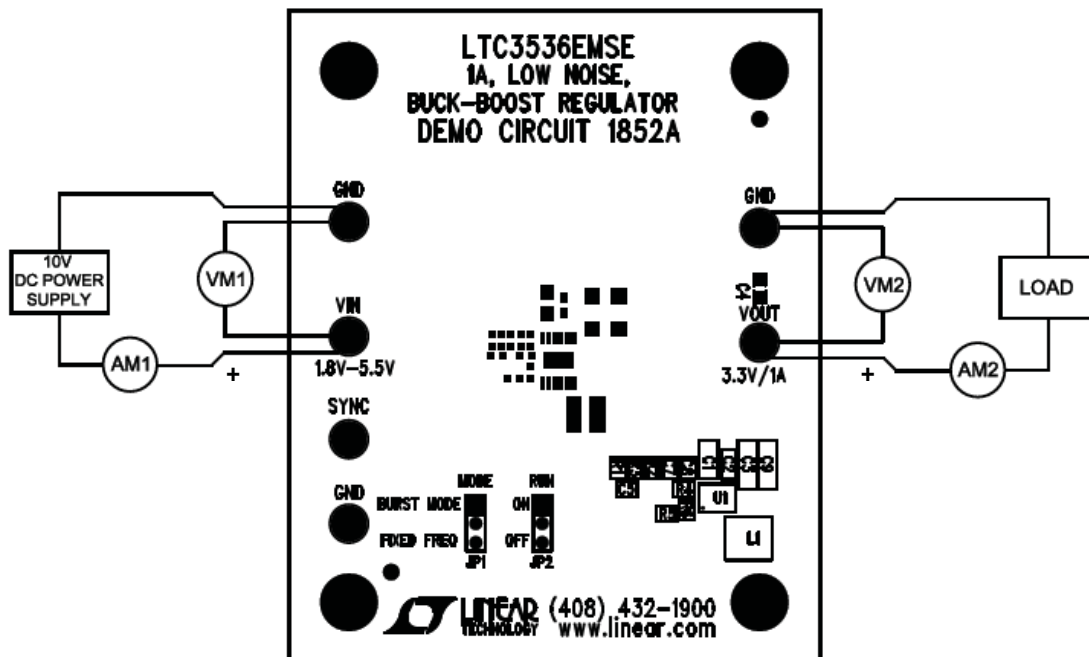

Figure 1. Proper Measurement Equipment Setup
Demonstration circuit 1852A is easy to set up to evaluate the performance of the LTC3536. For proper measurement equipment configuration, set up the circuit according to the diagram in Figure 1. Before proceeding to test, insert shunts into JP1 FIXED FREQ and JP2 OFF positions, which connects the RUN pin to ground (GND), and thus, shut down the circuit.
1. With the DC1852 set up according to the proper measurement and equipment in Figure 1, apply 5V at  $V_{IN}$ . Measure  $V_{OUT}$ ; it should read 0V. If desired, one can measure the shutdown supply current at this point. The supply current will be approximately  $3\mu\text{A}$ , or less, in shutdown.